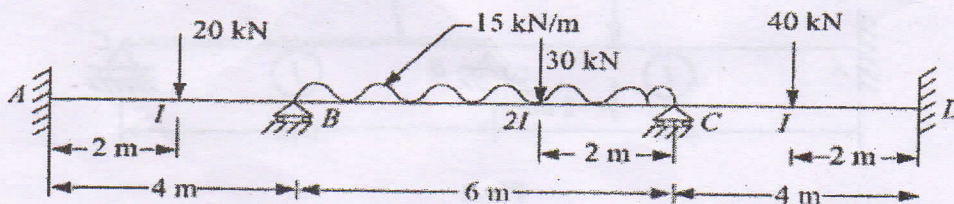

Fig. 7
- IX. Analyse continuous beam shown in fig. 7 by Kani's method.